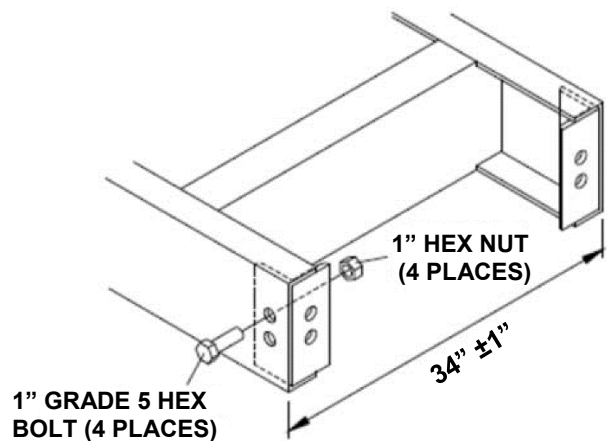
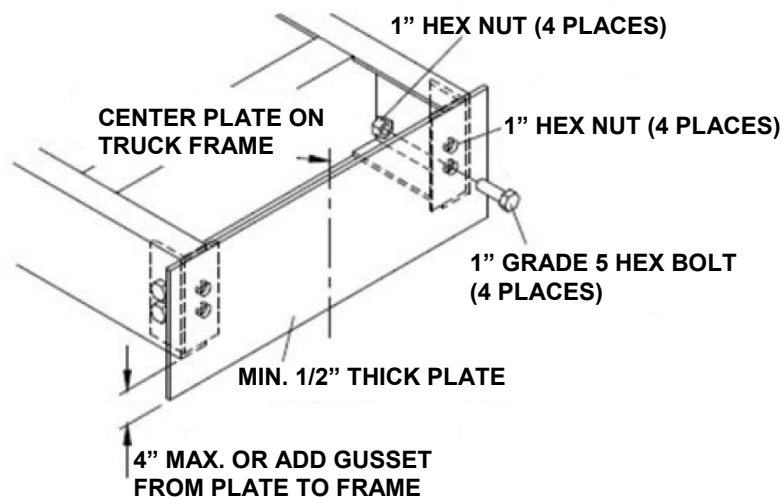

Figure 12
Figure 13
- Use the angle as a template for marking and drilling holes in the truck frame (Figure 12).
- Bolt the angle in place using two (2) 1" diameter (grade 5) bolts on each side.
- The plate needs to be a minimum of 1/2" thick and wider than 36" (Figure 13).
- Mount plate using four (4) 1" diameter (grade 5) bolts. If the plate is greater than 4" below the C channel frame, you must gusset from the plate to the frame.